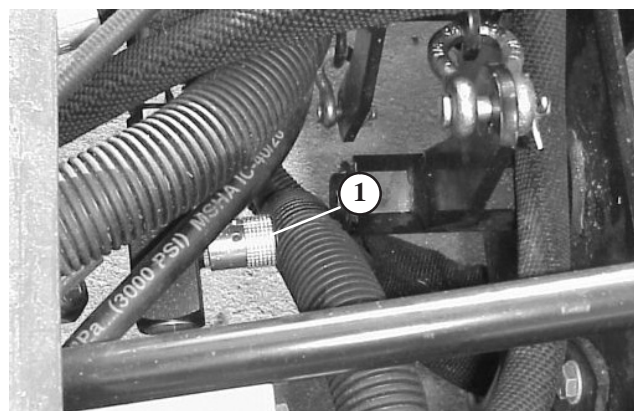

Figure 63
1. Locate valve on flow divider (under foot rest) (Fig. 63).